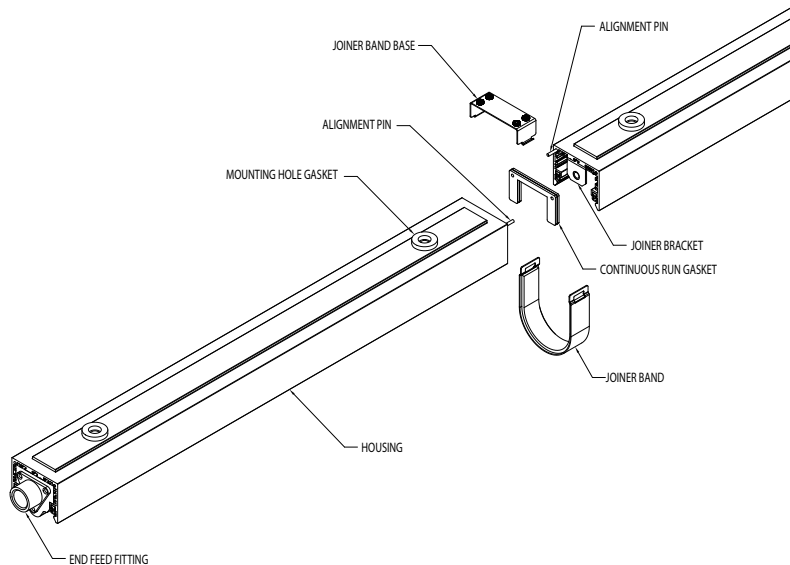

FIG. 2
7. Ensure the supplied gaskets are attached to the housings around the mounting holes on all segments. (see figure 2)